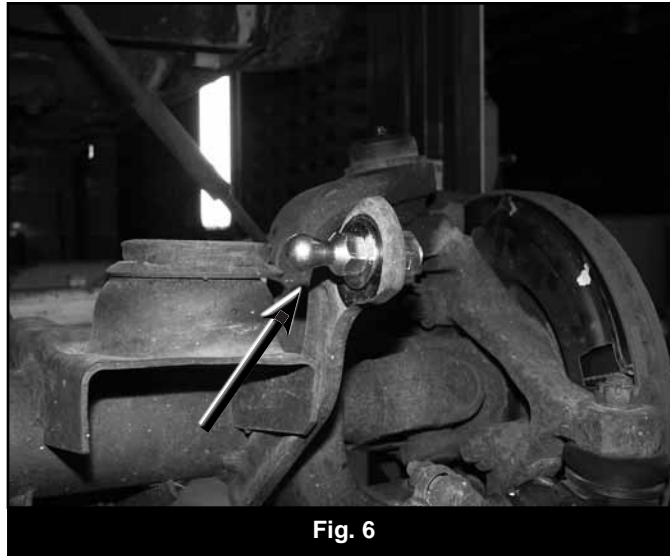

Fig. 6
21. Install the new lower ball stud (01302) to the OE sway bar link axle mount (Fig 6) with a $\frac{1}{2}$ " nut and two $\frac{1}{2}$ " SAE washers (BP 718). The washers mount on each side of the OE mount. The ball mounts toward the inside of the vehicle. Torque nut to 60 ft-lbs.